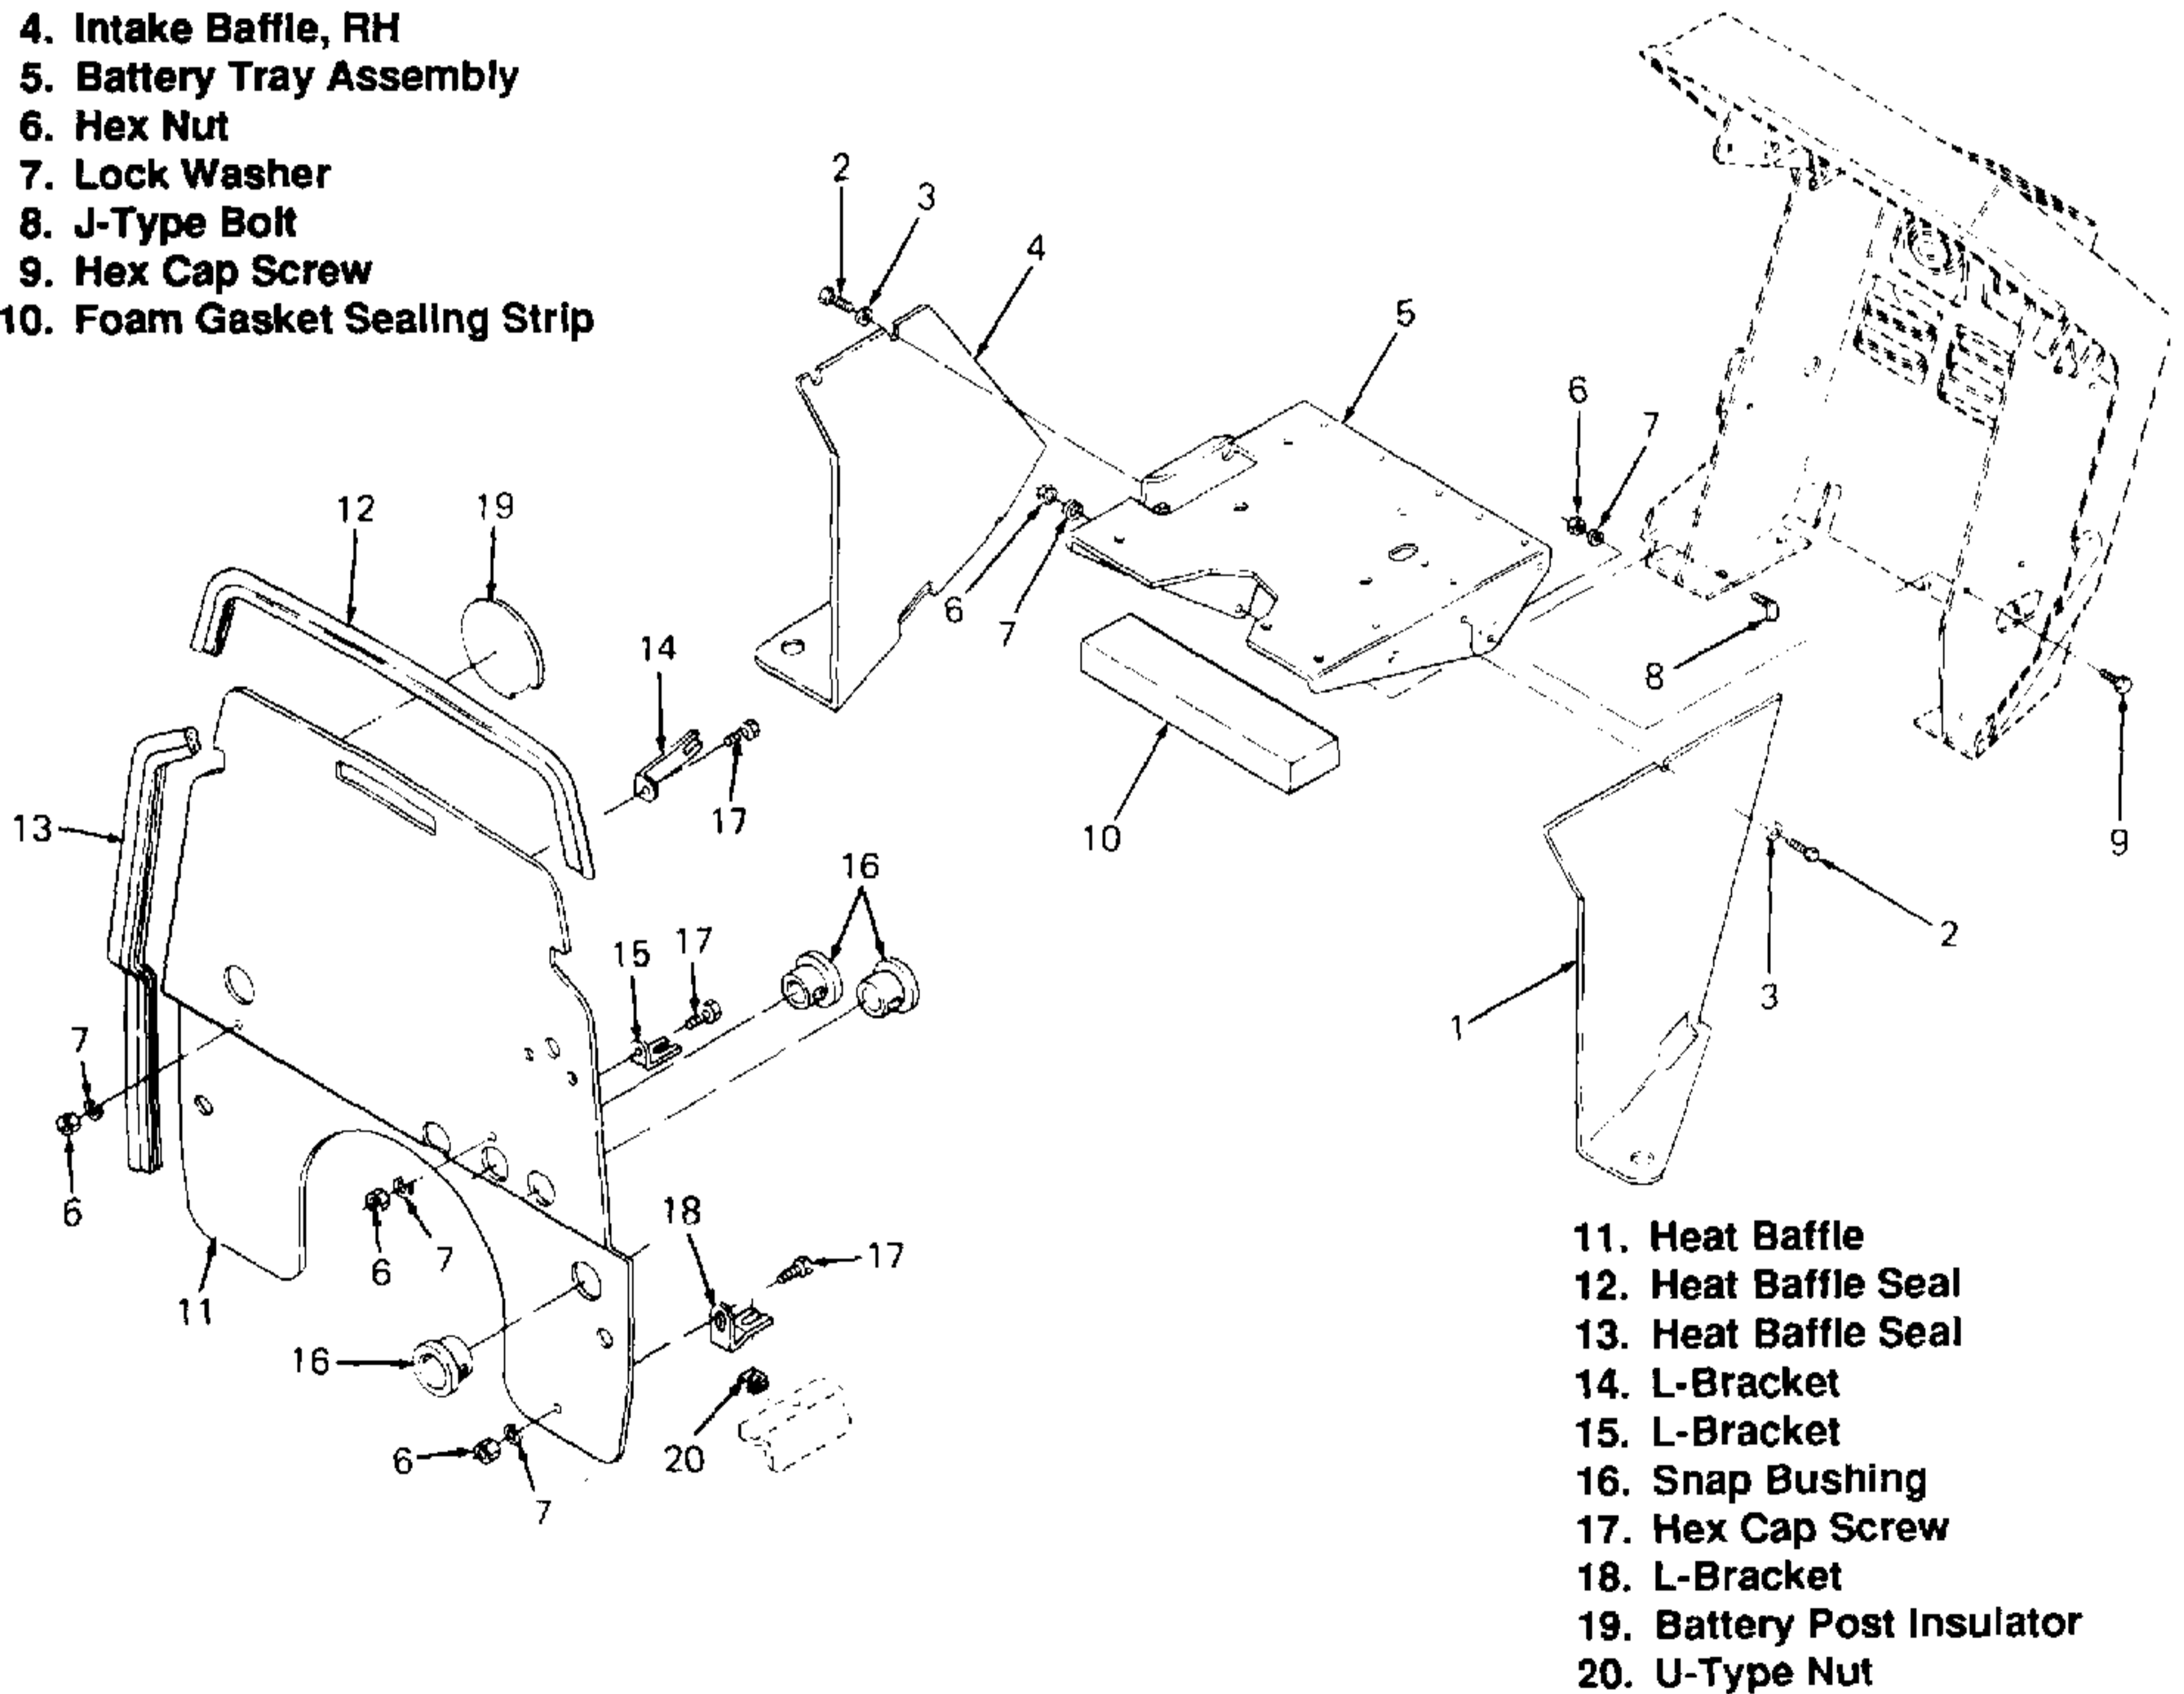

Figure 5-15A. Battery Tray and Heat Baffle (Models 1882 and 2082).
2. Remove left intake baffle (1, Figure 5-15A) by removing hex cap screws (2) and bell washers (3).
3. Remove right intake baffle (4) by removing hex cap screws (2) and bell washers (3).
4. Remove battery tray assembly (5) and foam gasket sealing strip (10) by removing hex nuts (6), lock washers (7), J-type bolt (8) and hex cap screws (9).